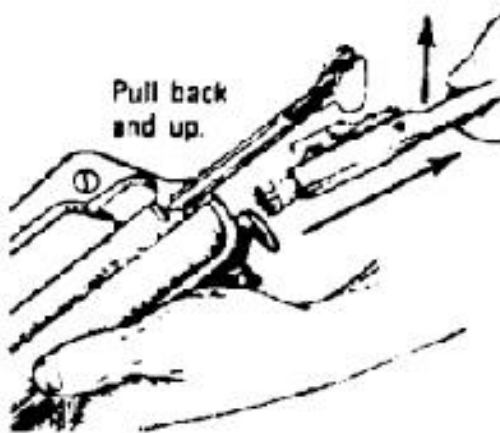

Figure E-10. Removing the bolt carrier and bolt.
- h. Remove the bolt carrier and bolt (figure E-10).